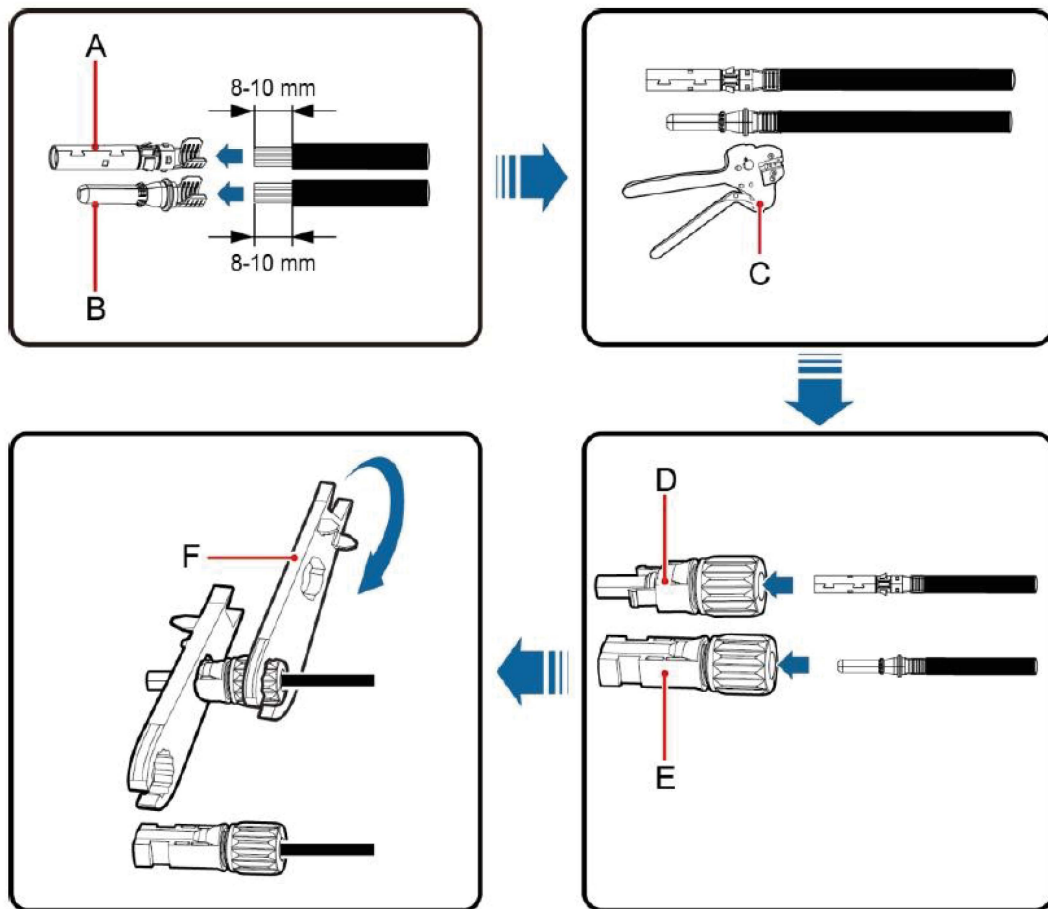

Figure 4.7 Connection between DC connector and solar modules
- (1) Lighting, short-circuit and other protection measures which meet the local electrical safety laws and regulations are needed before the AC connection.
- (2) Connect the output cables of solar modules to the DC connector as Figure 4.7 shows.